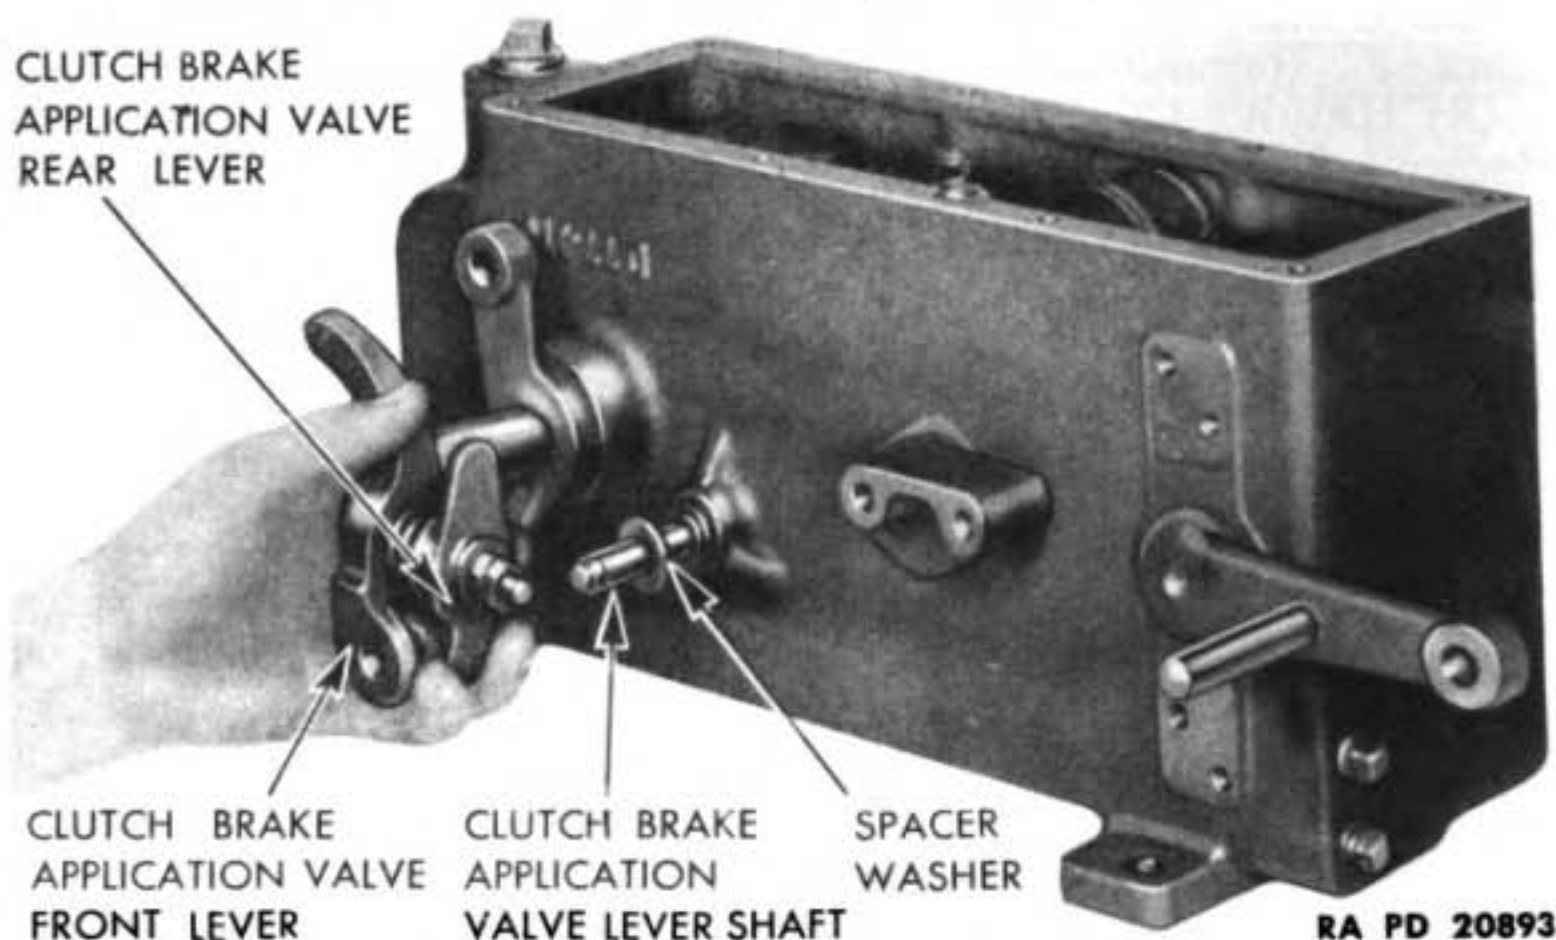

Figure 164 — Removing Clutch Brake Application Valve Lever Assembly
(6) REMOVE CLUTCH BRAKE APPLICATION VALVE LEVER ASSEMBLY (fig. 164). Remove cotter pin attaching lever assembly to valve lever shaft. Remove lever assembly and spacer washer from shaft.
(16) **INSTALL CLUTCH BRAKE APPLICATION VALVE LEVER ASSEMBLY** (fig. 164). Place spacer washer and lever assembly on clutch brake application valve lever shaft, in that order, and attach with cotter pin.